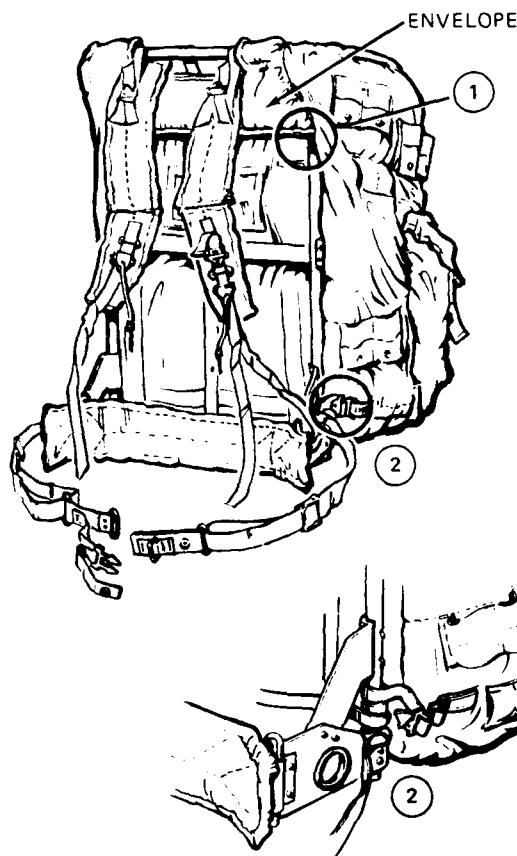

Figure 2-18.—Attaching the large pack to the frame.
CAUTION: When the medium pack is to be worn in extreme cold climates, it must be worn on the frame. See figure 2-18 for the manner of attachment. Using the frame will prevent accumulation of perspiration in the area where the pack contacts the back of the individual, which could cause rapid cooling of the individual.
Figure 2-18 shows the large pack on the pack frame. To attach it to the frame, complete the following steps:
1. Insert the bare frame into the envelope on the back of the pack. (See fig. 2-18, view 1.)
2. Secure the bottom of the pack to the frame, as shown. Note that the webbing is looped around the frame TWICE before buckling. Attach the shoulder straps and waist straps as previously described. (See fig. 2-18, view 2.)